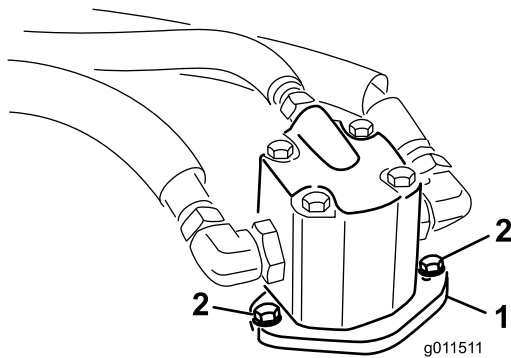

Figure 73
4. Remove the bolts securing the hydraulic motor to the mower deck (Figure 73).